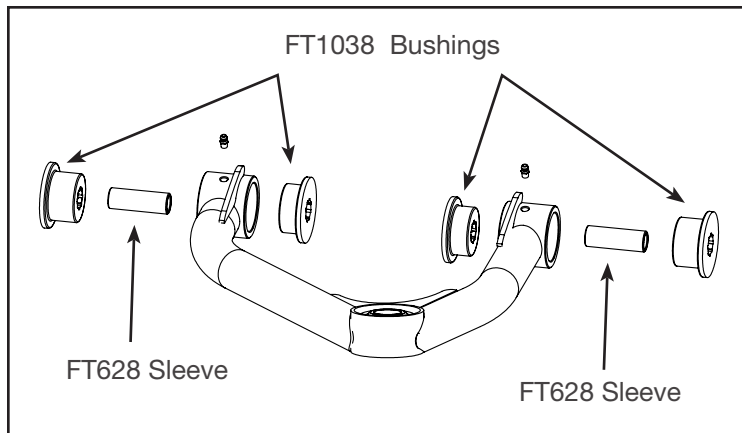

FIGURE 8 - STEP 9
9. Locate the new FT20902 (Driver control arm) & FT20903 (Passenger control arm). Open the supplied FT90170 (Bushing Kit) install 4 bushings, 2 sleeves and 2 FT84 (Zerk fittings) into each arm. **NOTE: Coat the new bushings and sleeves using the supplied grease packet. SEE FIGURE 8**